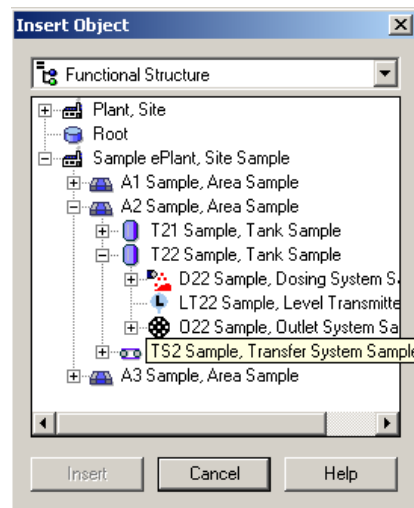

Figure 206. Select Object to Insert
3. In the Insert Object dialog that pops up, browse to the aspect object you want to insert and select it. See Figure 206.